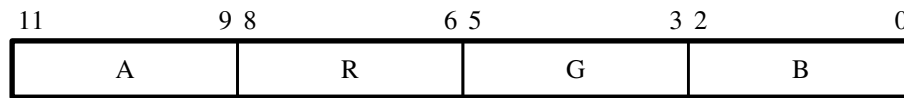

Figure 12. 12-bit RGBA Color Space.
- 12-bit RGBA — This format contains alpha values as well as RGB and uses 3 bits of each color as shown in Figure 12. This mode is defined as 3 bits per symbol and four symbols per beat.